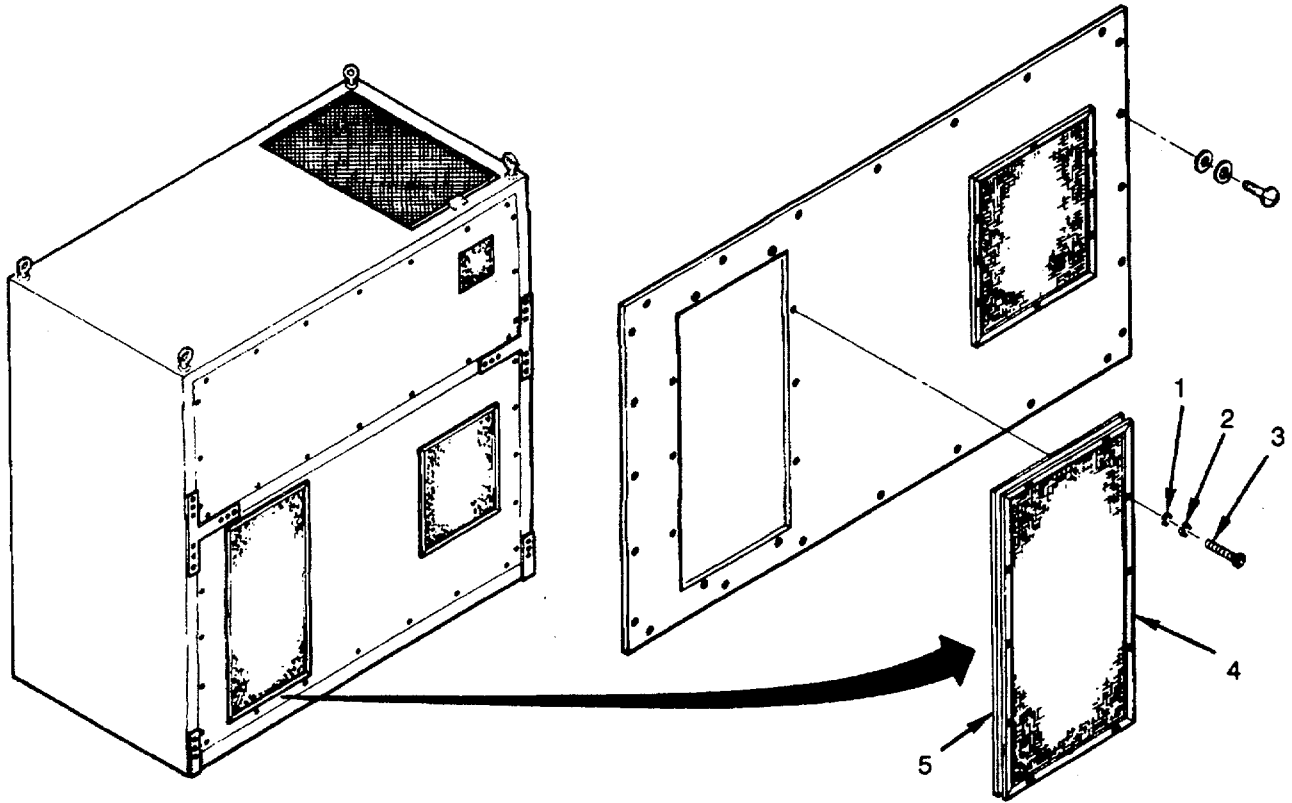

Figure 6-7. Condenser Air Out RFI Filter
1. Remove ten screws (3), flat washers (1), and lockwashers (2) (see Figure 6-7).
2. Remove filter (4).